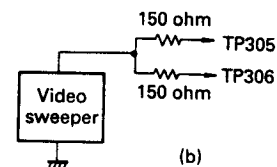

Figure 62(b).
4. Make adjustment as follows (Figure 62).